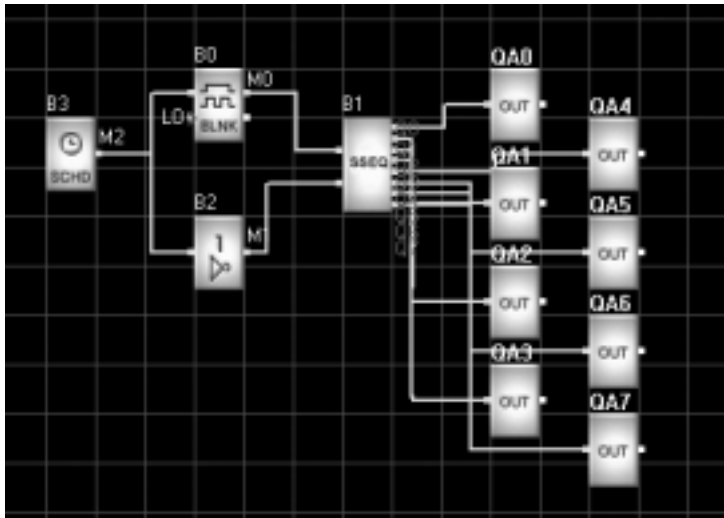

Fig. 10.29 Fountain Control Function Diagram
In Fig. 10.29, the program is the control system of the eight fountains. B1 is the time ON/OFF function block. And the time module is set as DAY. The ON time is set as 17:30 and the OFF time is set as 21:30. Thus every day from 17:30 to 21:30, the output of B1 is high electronic level to activate the SET input of B3. The SET pin of B3 is LO, which means it will never reset B3. Set the time parameter (T) of B3 as 5 and time unit as S. Thus every day from 17:30 to 21:30, the output wide of the output input of B3 is 5S. The pulse of B3 is passed to SET pin of B4. B4 is the stop sequence output function block. The RST pin is LO, which means that it will never reset B4. QA0-QA7 will separately control the engine of each set of the eight watering sets. The SET pin will receive a pulse from B4 and open the fountain engine. When all the engines are open, it will receive a pulse to close the seven engines controlled by QA1-QA7. Thus the point 1 and point 2 of the requirement will be realized. When it is 21:30, the time function block of B1 will be low electronic level and SET pin of B3 will be closed. B3 will stop outputting pulse and only output low electronic level to close the SET pin of B4. Thus the eight output of B4 will close the controlled relay and the connected engines also stop running.